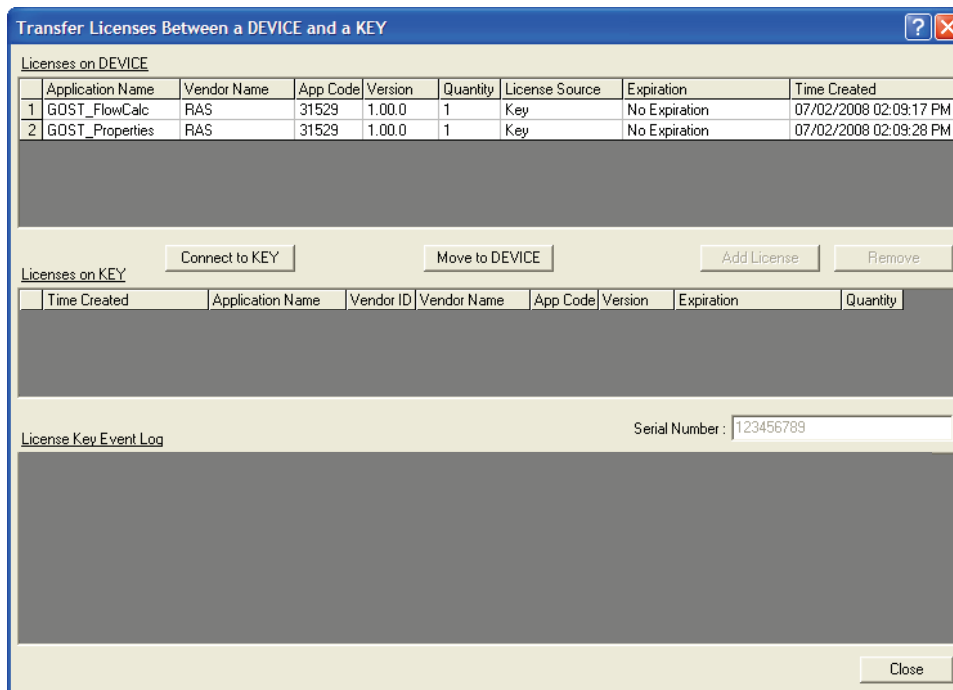

Figure 2-2. License Installed
3. Select the key-based licenses you want to transfer to the FB107 (GOST_FlowCalc, as shown in *Figure 2-2*).